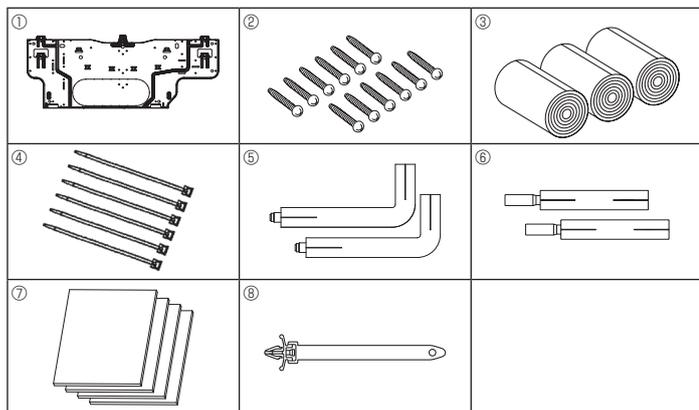

Fig. 3-1
3.1. Check the indoor unit accessories (Fig. 3-1)
- Ⓐ Mount board ① in Fig. 3-1
- Ⓓ Fixing screws (4 × 25) Ⓜ in Fig. 3-1
- Ⓕ Mount board Ⓜ in Fig. 3-1
- Ⓐ Water pipe (IN)
- Ⓔ Felt tape Ⓜ in Fig. 3-1